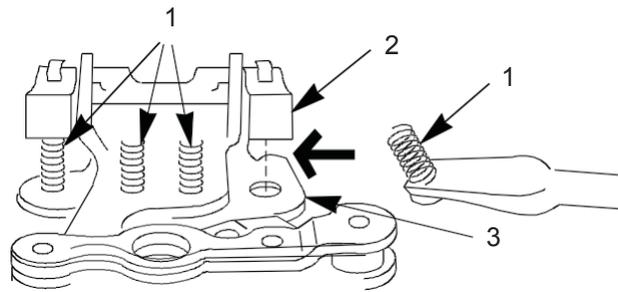

Figure 52. Feed Pawl Assembly.
24. Insert spring (Figure 52, Item 1) into recessed hole in underside of feed pawl (Figure 52, Item 2). Insert tip of screwdriver between the first and second coil of spring (Figure 52, Item 1) just above feed pawl assembly base (Figure 52, Item 3) and apply slight pressure upward to install spring (Figure 52, Item 1). Install the other three springs (Figure 52, Item 1) in the same manner.